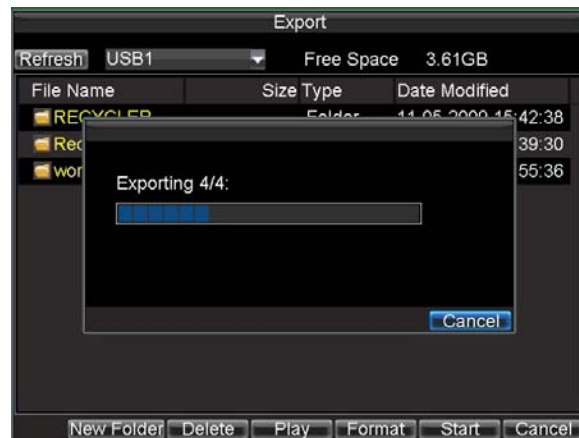

Figure 4. Backup Progress
7. Click *Start* to begin backup process, shown in Figure 4.